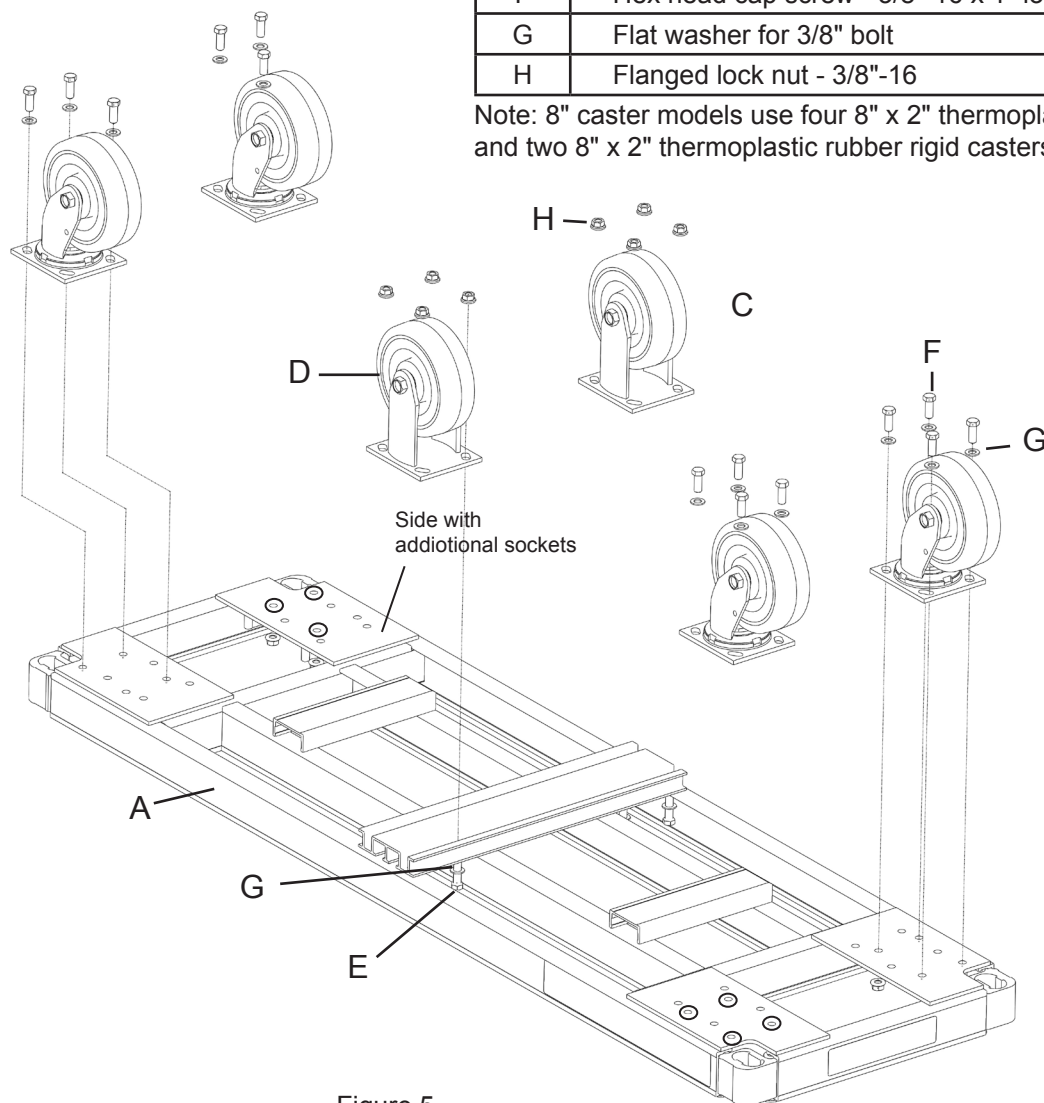

Figure 5
1. Using the 3/8"-16 x 1" long hex head screws (F), 3/8"-16 flat washers (G) and 3/8"-16 flanged hex lock nuts (H), attach all four of the 6" swivel casters (C) onto the deck as shown in Figure 5.
2. Using the 3/8"-16 x 2" long hex head screws (E), the 3/8" washers (G) and the 3/8"-16 flanged hex lock nuts (H), attach both of the 6" rigid casters (D) onto the deck as shown in Figure 5.